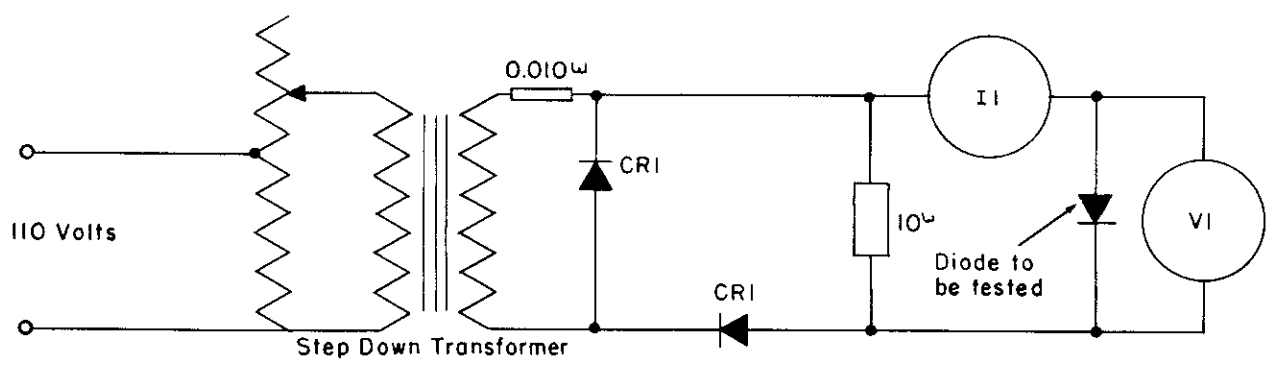

Fig. 6 - Forward Voltage Drop Test
1. Connect the diode to be tested in a circuit as shown in Fig. 6. The forward voltage drop metering leads must be attached separately and directly to the diode under test.